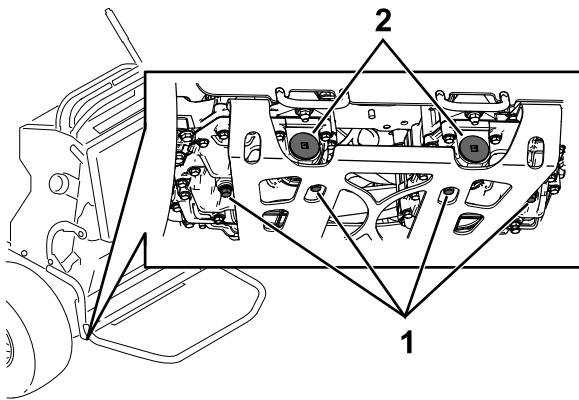

Figure 85
5. Locate the drain plug in the bottom of each transmission and place a drain pan under the plugs (Figure 85).